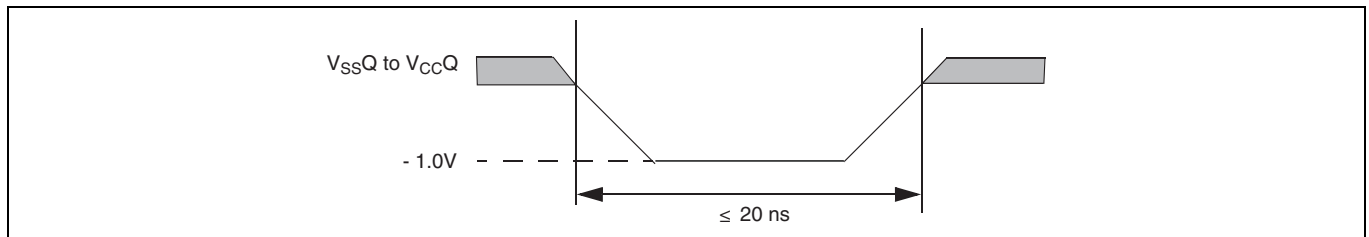
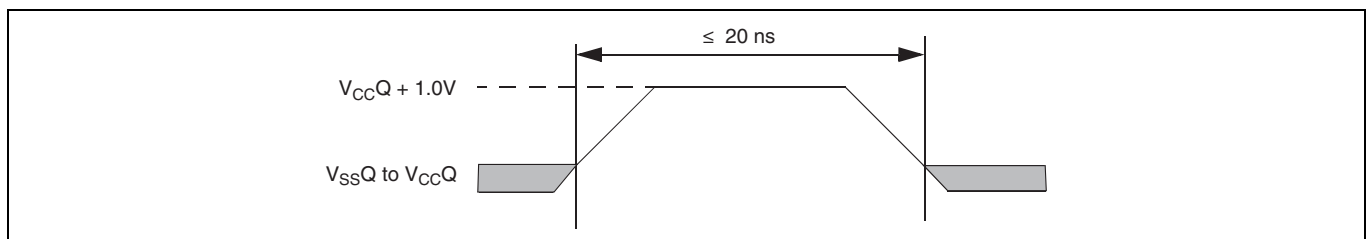

Figure 19 Maximum negative overshoot waveform
Figure 20 Maximum positive overshoot waveform
51. Minimum DC voltage on input or I/O signal is -1.0 V. During voltage transitions, input or I/O signals may undershoot VSS to -1.0 V for periods of up to 20 ns. See **Figure 19**. Maximum DC voltage on input or I/O signals is VCC + 1.0 V. During voltage transitions, input or I/O signals may overshoot to VCC + 1.0 V for periods up to 20 ns. See **Figure 20**.